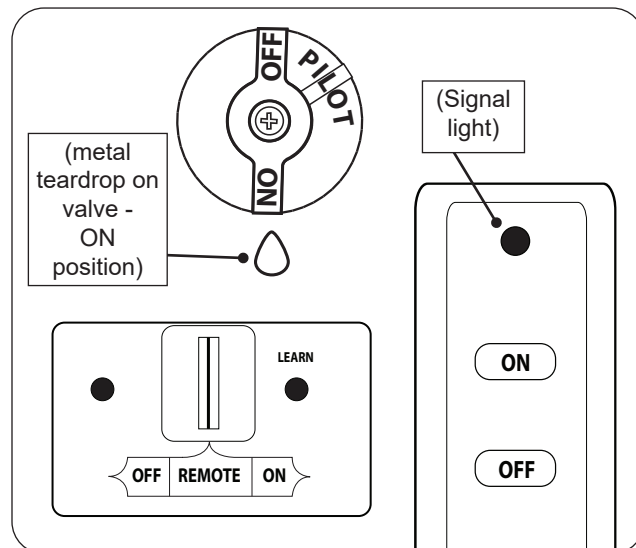

Fig. 31-1 Remote lighting
1. Ensure the pilot is burning. Turn the control knob counterclockwise ↺ to **ON** (see Fig. 31-1).
2. Locate the 3-position switch on the remote receiver, and slide the switch to **REMOTE** (see Fig. 31-1).
3. Locate the remote transmitter and press the **ON** button (see Fig. 31-1). The ignition sequence will begin.